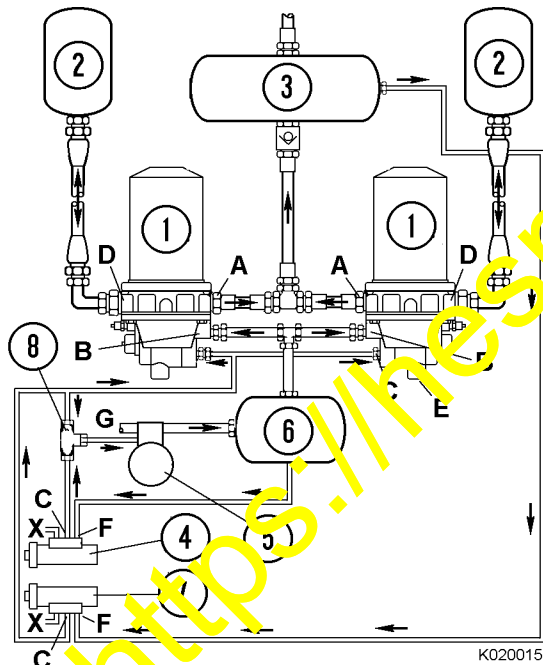

FIGURE 11. AIR DRYER DIAGRAM
The air dryer (1, Figure 11) receives hot compressed air from the expansion tank (6), which it cools, dries and filters before sending it to the wet tank (3) located on the right hand deck. This reduces the build up of dirt and moisture in the vehicle air system. The system incorporates separate, isolated purge tanks (2).